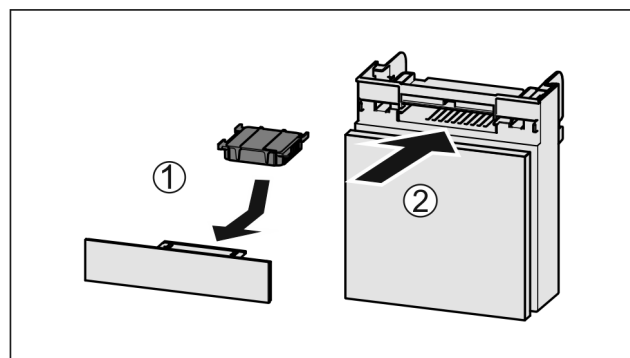

Fig. 34
- ▶ Insert the carbon filter as shown in the diagram *Fig. 34 (1)*.
- ▶ Push the compartment in *Fig. 34 (2)*.